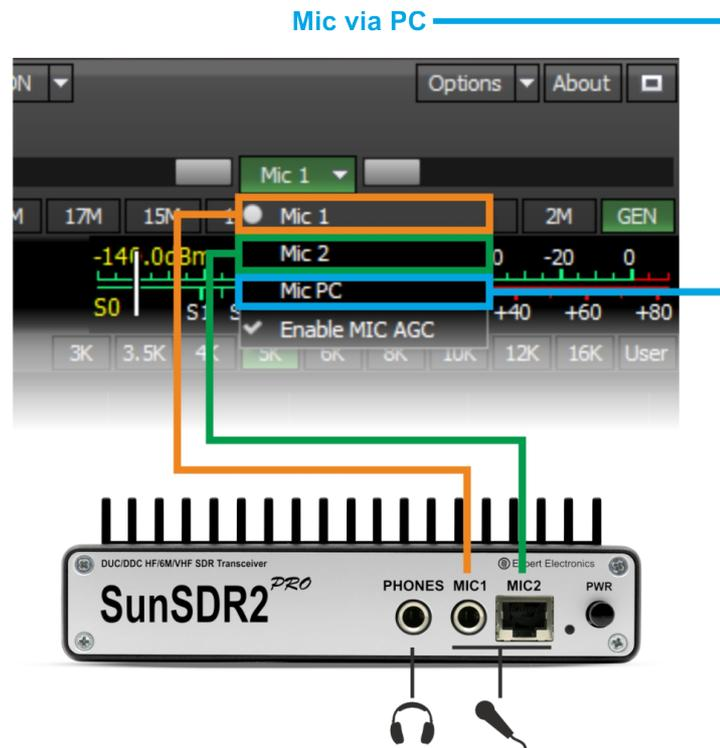

Figure 3.3 – Selecting correct microphone inputs of the transceiver
6. In the main ExpertSDR2 software dialogue window specify the connector to which your microphone is connected (see Figure 3.3 below);